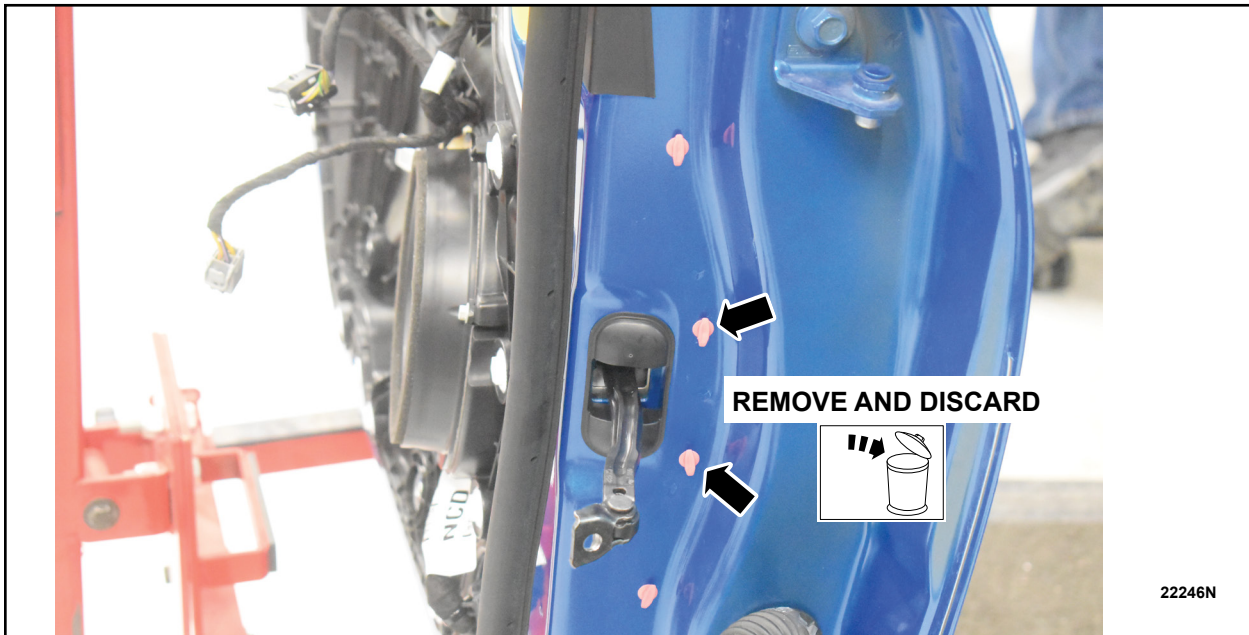

FIGURE 7
5. Remove and discard the two (2) retainers closest to the door check arm cover as shown in Figure 7.